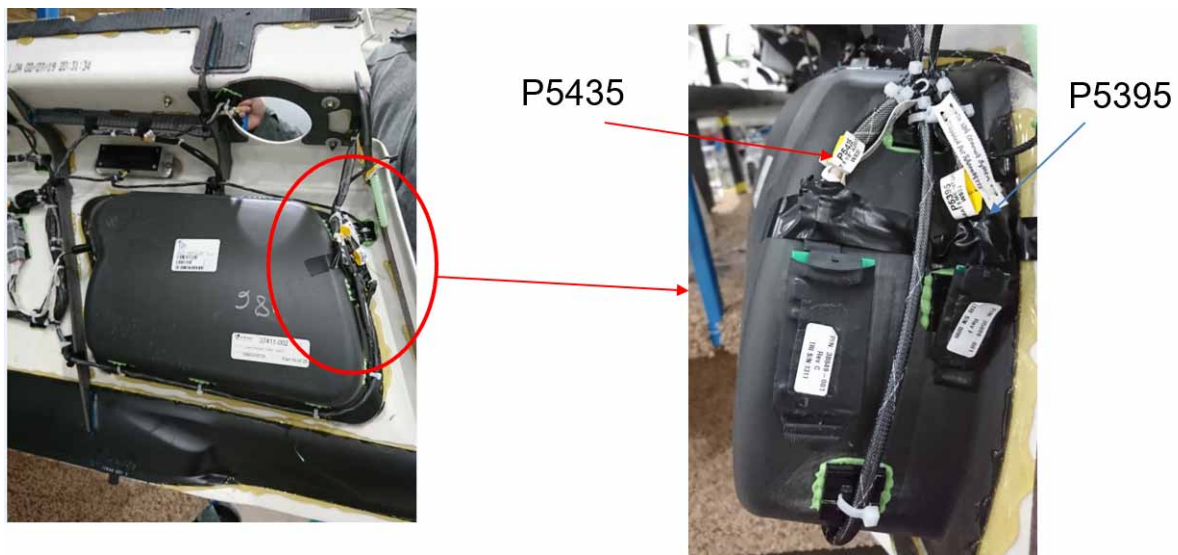

Figure 05
- (1) Locate seat 5 connectors right of seat 5, on inside wall of RH mid lower panel on front side of seat 5 pocket. (See Figure 05)
- (2) Disconnect connectors from circuit card assemblies.
- (3) Remove circuit card assemblies from aircraft.
- (4) Cap and stow connectors.
- (5) Label each connector "DO NOT CONNECT SYSTEM DISABLED PER SBA5X-23-03".